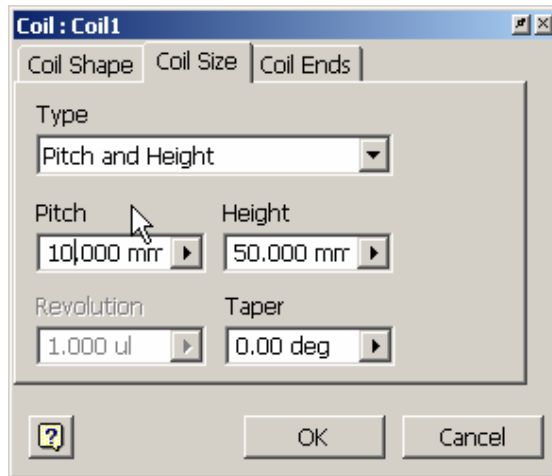

Figure 13
- Select the **Coil Size** tab in the dialog box and change the settings as shown in Figure 13.